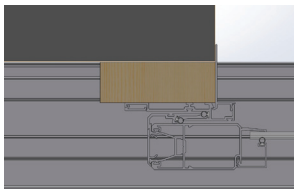

Figure 26
13. The **hook** strip may need to be field notched or ordered longer if jumping tracks with a build out. (See Figure 26)